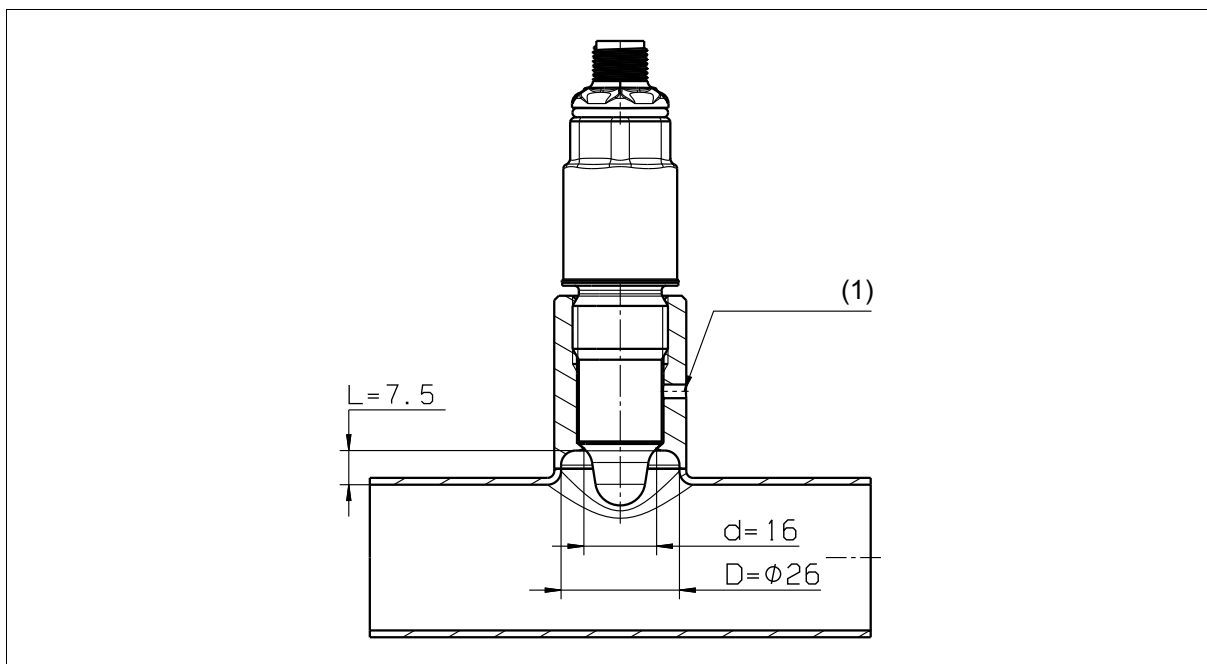

Fig. 5-3 Avoidance of cavities at the measuring point
- Cavity-free installation has been taken into account in order the measuring point is completely covered with cleaning agent during cleaning, see Fig. 5-3.